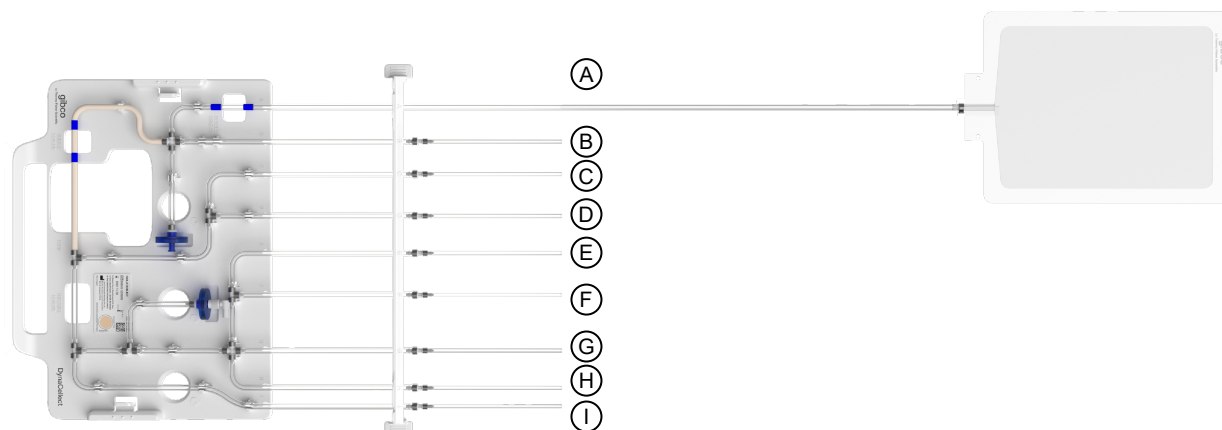

Figure 1 Example consumable configuration of isolation kit for CTS™ Detachable Dynabeads™ CD3/CD28
1. Prepare the consumables according to the configuration shown in Figure 1. For the type of bags, content, and volumes, see Table 5. Place clamps on filled bags.
2. Thaw a leukopak. Dilute the content 1:1 with DPBS/1% rHA or HSA to decrease the concentration of DMSO. Measure cell concentration in a cell counter and use the percentage of CD3⁺ from the Certificate of Analysis (CoA) to adjust the concentration to 10^7 target cells (CD45⁺CD3⁺)/mL. Transfer 40 mL of the cell suspension to the cell input bag (G) using a 60 mL syringe. Add at least 30 mL air into the bag, to trigger the bubble sensor when the bag is empty.
4. Transfer 3 mL CTS™ Detachable Dynabeads™ CD3/CD28 to the bead bag (H). Place a large clamp across the top of the bag, to avoid beads being stuck in the top of the bag. Add at least 30 mL air into the bag, to trigger the bubble sensor when the bag is empty.
- Weld the bags to the CTS™ DynaCollect™ Cell Isolation Kit, following the configuration shown in Figure 1. Hook the bags onto the bag hangers.